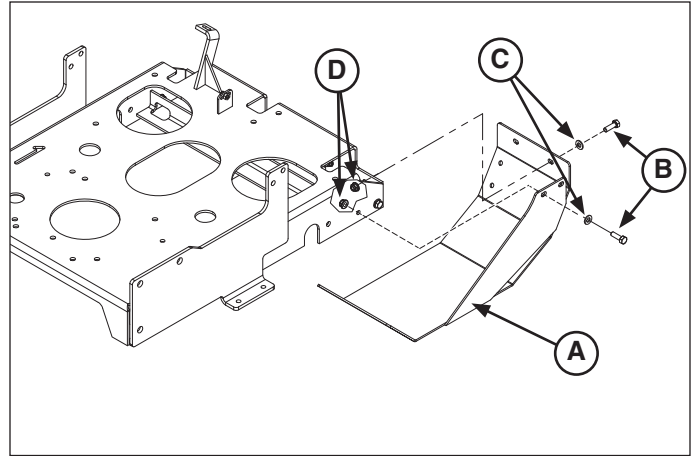

Figure 3. Installing the Skid Plates
5. Install the LH skid plate (A, Figure 3) to the frame as shown in Figure 3. Secure in place using four (4) 5/16-18 X 1" bolts (B) 5/16 washers (C) 5/16 nylock flange nuts (D). Repeat this process to install the RH skid plate to the machine.